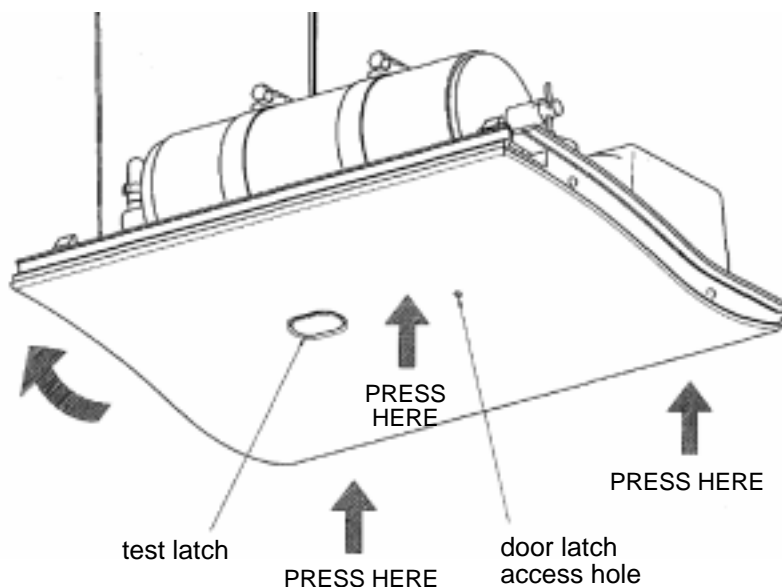

Figure 4 - Closing the Door on the Right Hand Passenger Mask Assembly
- Step 8. Press on the 2 hinge side corners of the door and then along the edge of the door to seat the hinges as shown in Figure 4.